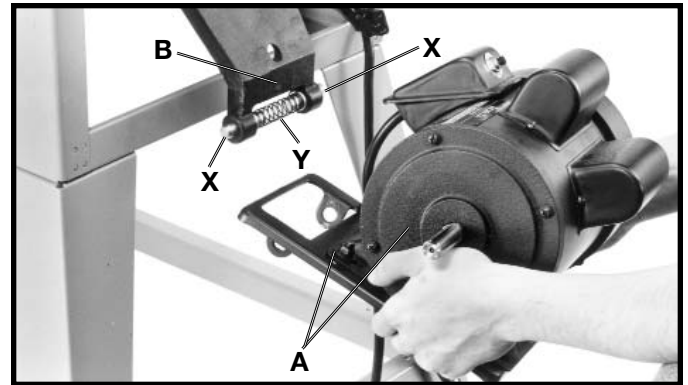
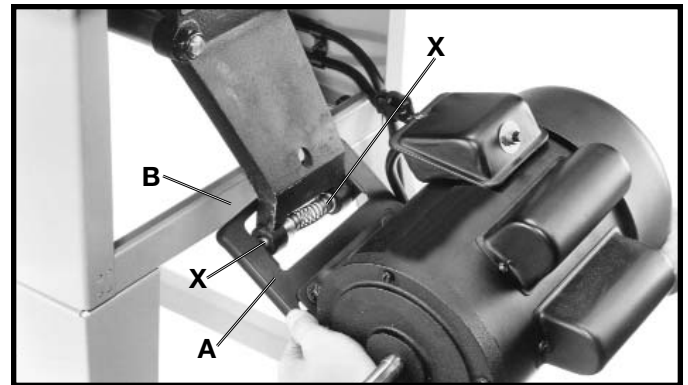

Fig. 17
Fig. 18
1. Insert a pin (X) Fig. 17, into the holes in each side of bracket (B). **NOTE: INSERT THE TAPERED END OF PIN (X) FIG. 17, THROUGH THE INSIDE HOLE OF BRACKET (B).**
2. Assemble spring (Y) Fig. 17, onto the non tapered end of each pin (X) as shown.
3. Position motor and motor mounting plate (A) Fig. 17, below bracket (B) to allow bracket arm to slide through large opening in motor mounting plate (A).
4. Depress pins (X) Fig. 18, on both sides of bracket (B) and rotate motor mounting plate (A) until pins (X) are engaged in holes (D) Fig. 17, of motor mounting plate (A).